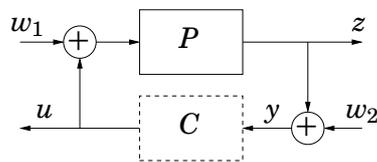

Figure 6 Model I
The model used in the design will be chosen as one of the models depicted in the block diagrams in Figure 6–8. The signals w_1 and w_2 are independent Gaussian white noise processes with variance 1.
- Which of the block diagrams in Figure 6–8 results in the controller with the best robustness to *measurement noise* at frequencies around ω_0 . Motivate your answer! (1 p)
- Which of the block diagrams in Figure 6–8 results in the controller with the best robustness to *load disturbance noise* at frequencies around ω_0 . Motivate your answer! (1 p)
- Which of the models in Figure 6–8 will result in the controller that gives the **largest** value of $|S(i\omega_0)P(i\omega_0)|$, where $S = \frac{1}{1+PC}$ is the sensitivity function. Hint: Remember that $S + T = 1$. (2 p)